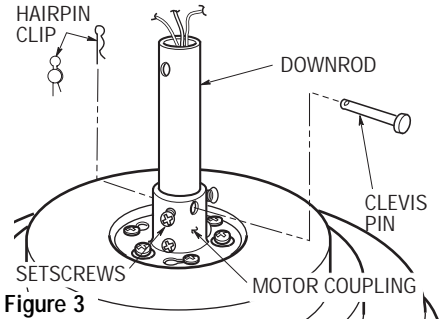

Figure 3
- 2. Unscrew the setscrew (Figure 3) until it clears the inside of the motor coupling. Then separate, untwist and unkink the three 80" motor leads. Route the motor lead wires through the downrod. Align the clevis pin holes in the downrod with the holes in the motor coupling. Install the clevis pin and secure with the hairpin clip (Figure 3). The clevis pin must go through the holes in the motor coupling and the holes in the downrod. Be sure to push the straight leg of the hairpin clip through the hole near the end of the clevis pin until the curved portion of the hairpin clip snaps around the clevis pin. The hairpin clip must be properly installed to prevent the clevis pin from working loose. Pull up on the downrod to make sure the clevis pin is properly installed.
**It is critical that the clevis pin in the motor coupling is properly installed and the setscrews securely tightened. Failure to verify that the pin and setscrews are properly installed (as shown in Figure 3) could result in the fan falling.**
- 3. Tighten the setscrews (Figure 3) securely while pulling up on the downrod.